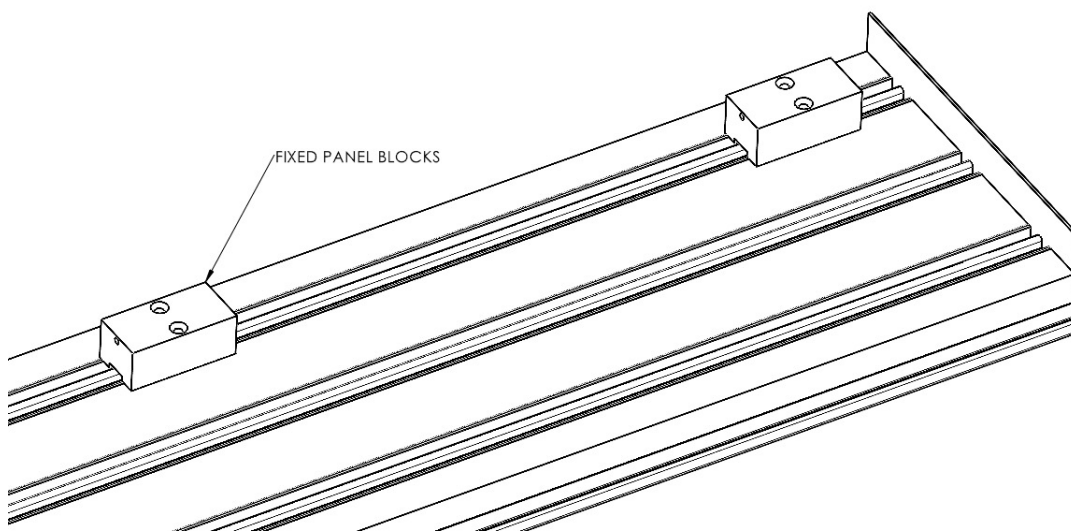

Figure 14
13. If the door system has fixed panels, they will be installed last. Position the adjacent intermediate panel to allow for the fixed panel interlock to overlap. Ensure that the fixed panel is a few inches away from the jamb with the interlocks overlapping each other. Lean the top of the panel into the corresponding head track and lower the panel straight down onto the sill assembly. The fixed panels will rest on fixed panel blocks to position it at the correct height over the T-sill. (See Figure 14).